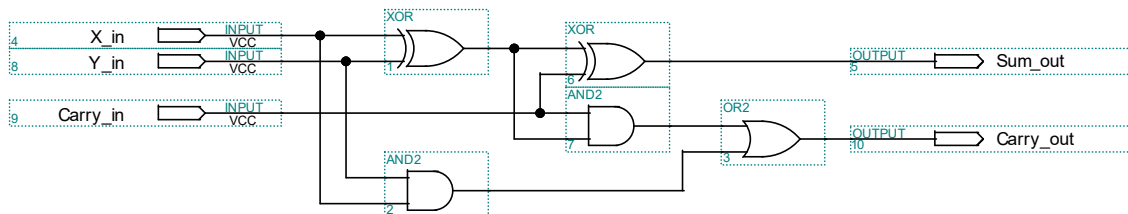

Figure 9: Logic diagram of a full adder (marked Σ in Fig. 6)
- 6.5. Capture the full adder of Figure 9 in a file called “*fulladder1bit.bdf*.” Add the other logic components that are needed to implement the logic circuit ACi that you developed from Fig. 6. Repeat the necessary steps to create the corresponding symbol.